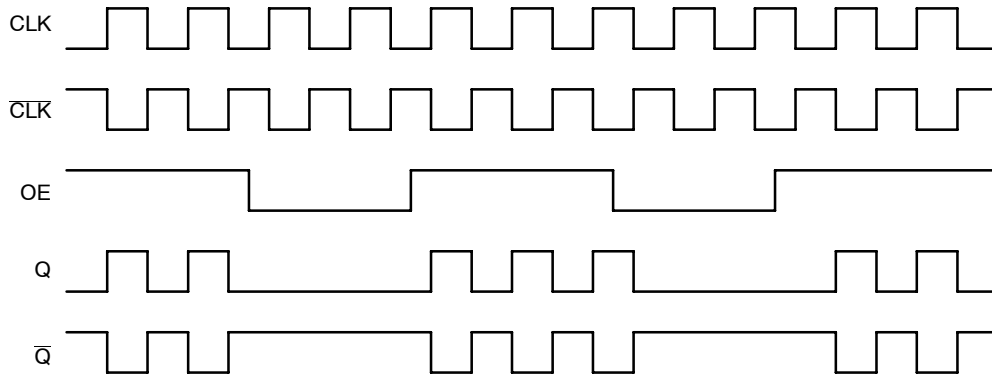

Figure 7. Output Enable (OE) Timing Diagram
- OE Set Up Time is defined with respect to the rising edge of the clock. OE High-to-Low transition ensures outputs remain disabled during the next clock cycle. OE Low-to-High transition enables normal operation of the next input clock (See Figure 7).